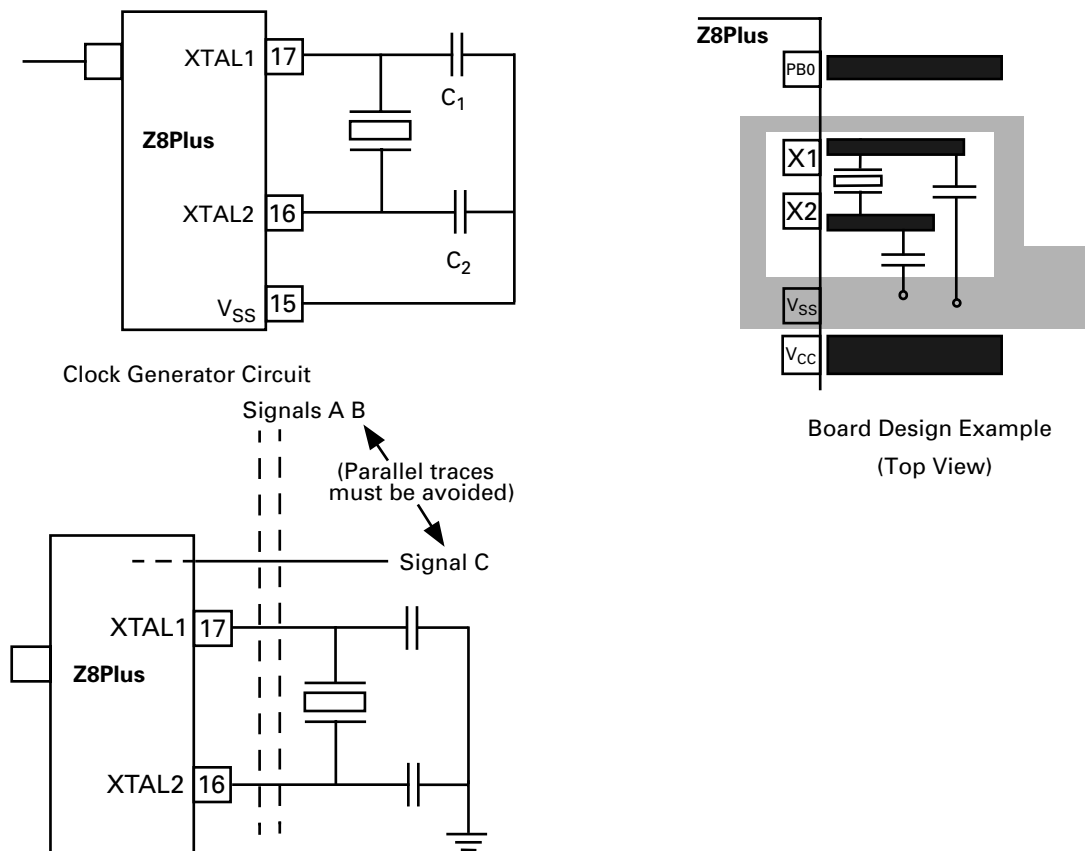

Figure 15. Circuit Board Design Rules
The traces from the oscillator pins of the integrated circuit (IC) and the ground side of the lead caps should be guarded from all other traces (clock, V_{CC} , address/data lines, and system ground) to reduce cross talk and noise injection. Guarding is usually accomplished by keeping other traces and system ground trace planes away from the oscillator circuit, and by placing a Z8Plus device V_{SS} ground ring around the traces/components. The ground side of the oscillator lead caps should be connected to a single trace to the Z8Plus device V_{SS} (GND) pin. It should not be shared with any other system-ground trace or components except at the Z8Plus device V_{SS} pin. The objective is to prevent differential system ground noise injection into the oscillator (Figure 15).